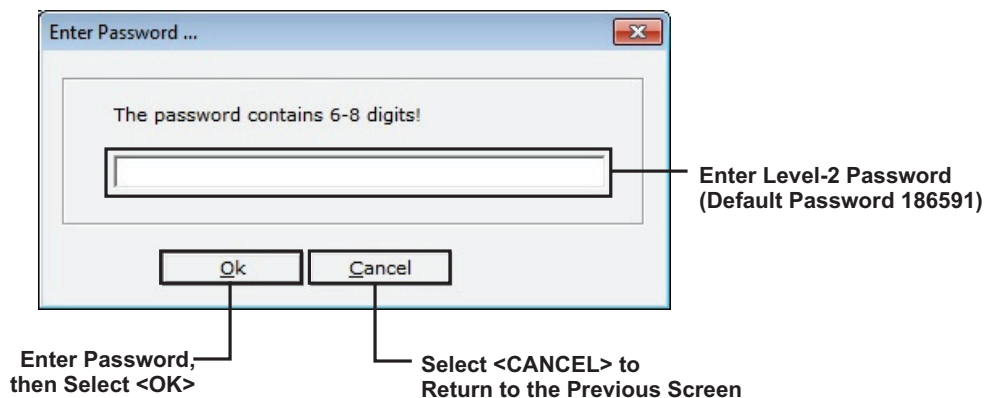

Figure 4-32. Enter Password
1. Select **Tools>Receive Test Log** to copy the contents of the most recent log of initiating device test events to a text file. In response, the prompt for a password (Figure 4-32) is displayed.
Following selection of the Test Log option, ACT-SLX immediately displays the password prompt (Figure 4-32) for **Single Control Unit** installations.